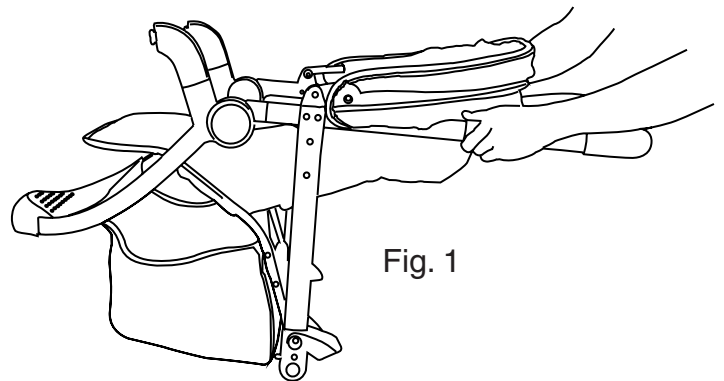

Fig. 1
- Lean the stroller backwards so the rear axle frame is resting on a flat surface and the front wheel forks are pointing upward (Fig. 1).